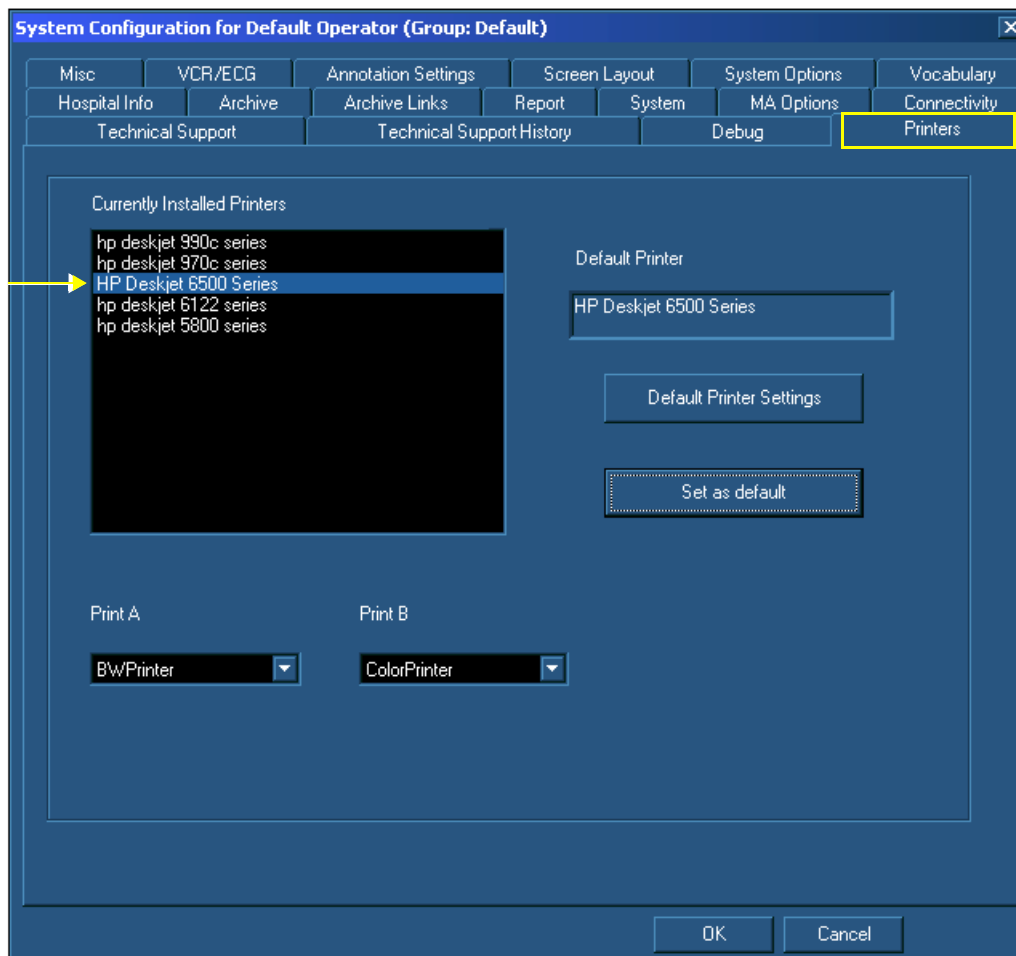

Figure 8-196 System Configuration Window - Printers Tab
28.) Press the **Config** button on control console and from the System Configuration window, activate the Printers tab - see Figure 8-196.